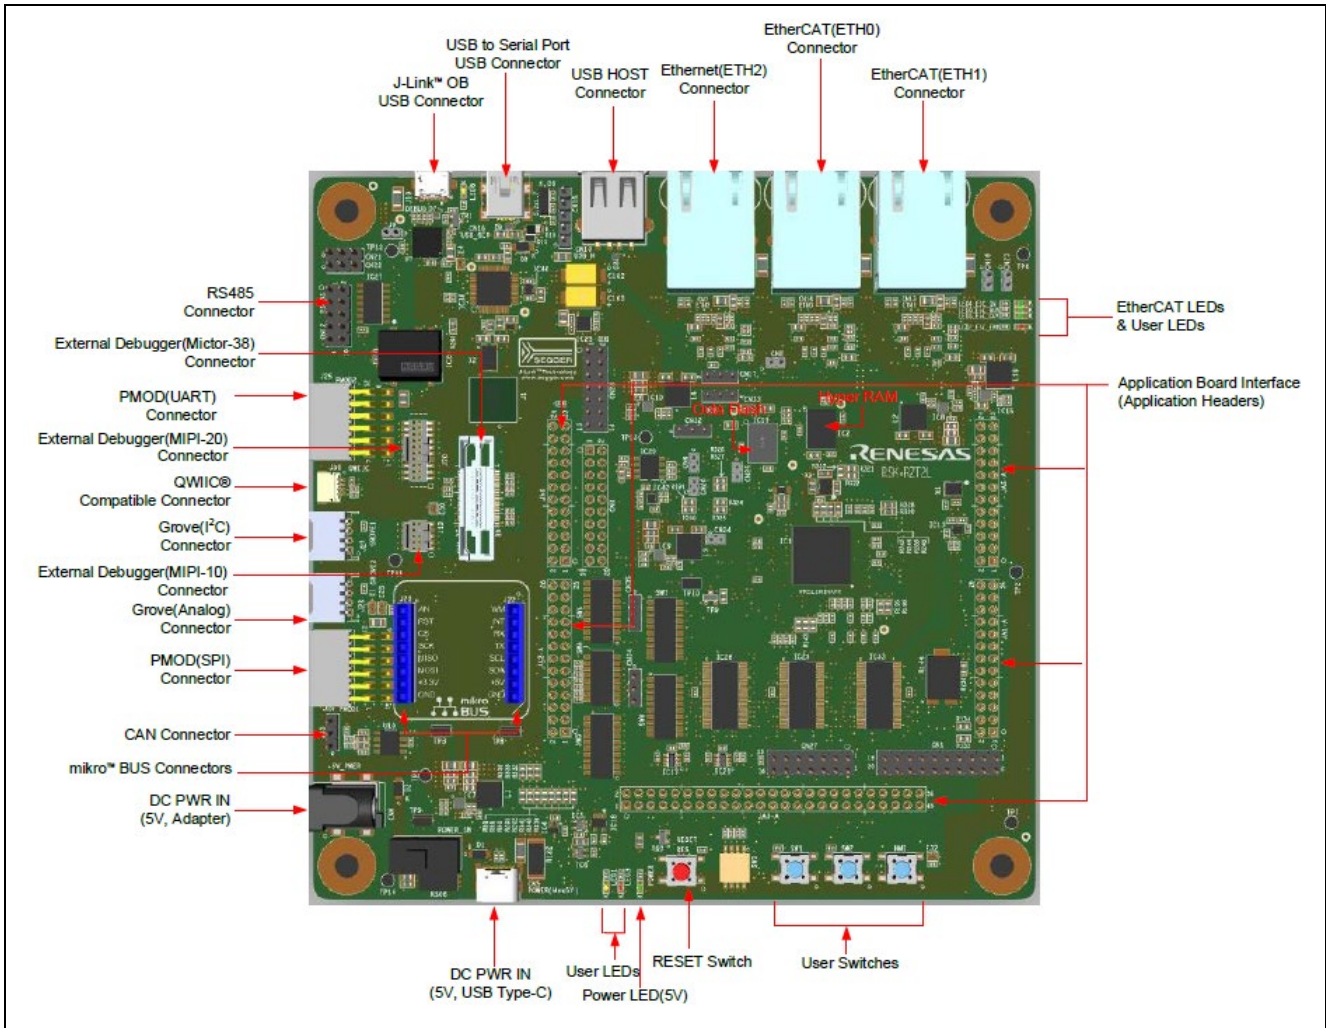

Figure 3.1 RZT2L RSK board layout
3. Connect the Ethernet LAN cable to ETH2 on the RZ/T2L RSK board as shown on Fig. 3.1.